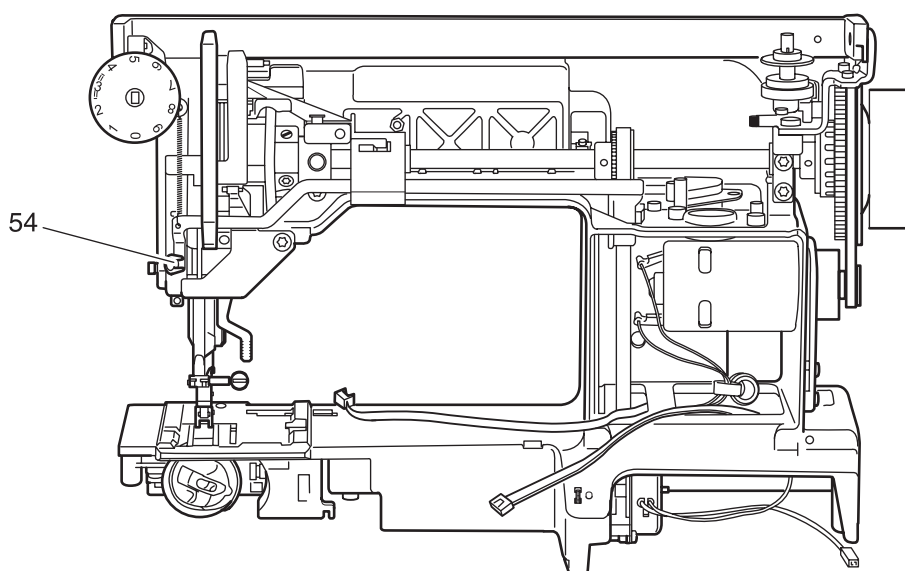

Fig. 29
- Remove Benzing circlip 54 on the needle bar frame (fig. 29).